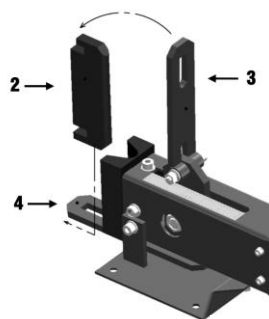

Fig. 2
3. Place the pressing die (#2) between the upper plate (#3) and the lower plate (#4) (Fig. 2).